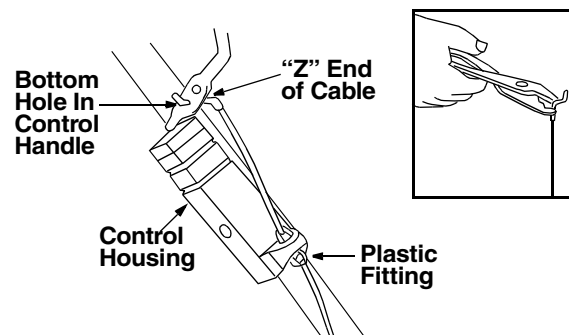

Figure 3
- Route the control cable over the lower handle. Insert the end of the cable into the hole in the control housing as shown in Figure 3. Push the plastic fitting until it locks into the control housing.